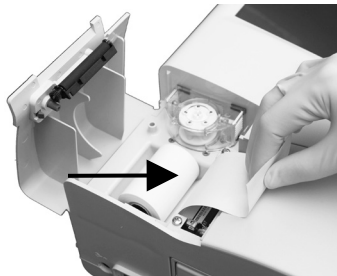

Fig. 7-29 Install Printer Paper
3. Pull the end of the paper upward and slightly out of the paper tray (Fig. 7-29).